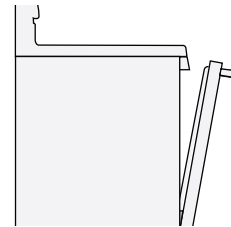

Figure 20: Door open to broil stop position
4. Place the broiler pan on the rack. Be sure to center the broiler pan directly under the broiler element. Broil with door open to the stop position (Figure 20). Always pull the oven rack out to the stop position before turning or removing food.